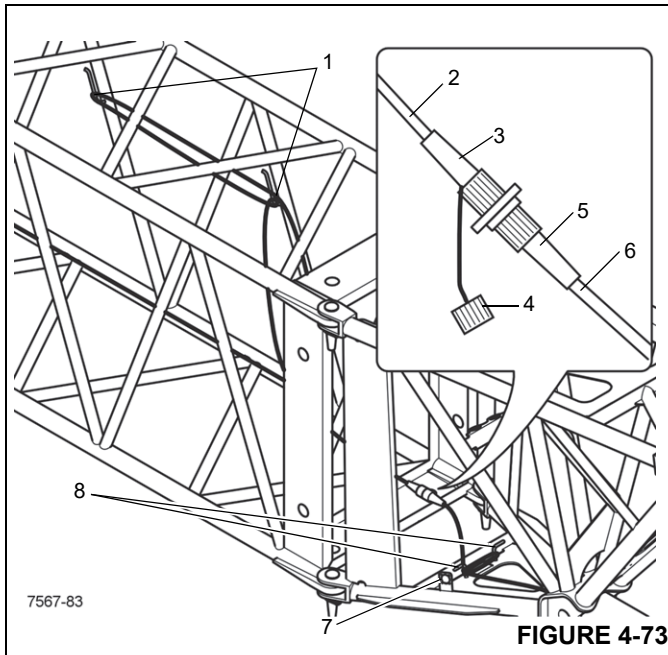

FIGURE 4-73
1. Unwind the cable (2) (Figure 4-73) from the holder (1).
2. Remove the cap (4) off the socket (3).
3. Unwind the cable (6) from the holder (8).
4. Remove the bridging plug (5) from the dummy socket (7) and plug it into the socket (3).
5. Wind up the cable (8) far enough on the holder (7) so it will not be damaged during operation.
6. Wind up the cable (2) far enough on the holder (1) so it will not be damaged during operation.